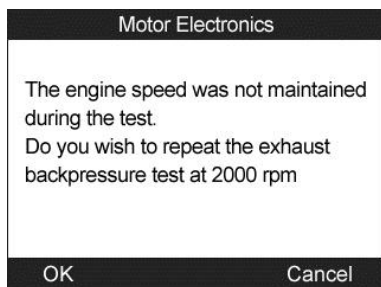

Figure 13.43
- If the engine is not running at 2000 rpm, the tool will display a warning message. (Figure 13.43) Select **OK** to repeat the test or select **Cancel** to exit.